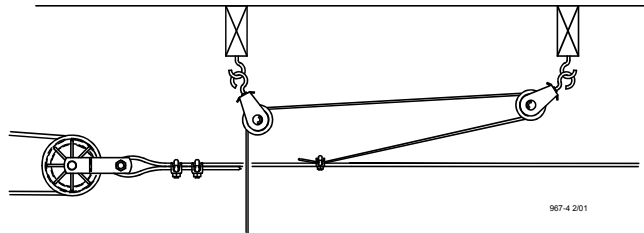

**Figure 19. Pulley Installation**
6. After securing the Ceiling Hook to the truss, slide the hook of a Swivel Pulley into the slot, as shown in **Figure 19**.